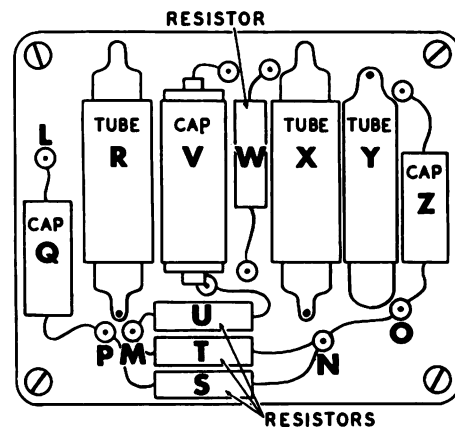

Figure 6A.
● Information for items 4 through 15: Assume that a plug-in subassembly consisting of four video amplifier stages is defective. Your problem is to locate the source of the trouble and then to correct it. Figure 6A shows a component parts layout diagram for this subassembly.
6. The malfunction of the subassembly shown in figure 6A is found to be caused by a poorly soldered joint at terminal O. Since the operating temperature of the assembly does not exceed 200° F., the appropriate solder to employ is
8. You should tell Jackson that before he resolders the faulty connection at point O in figure 6A, he should tin his iron by
11. The recommended way to make the solder connections on a miniature assembly like the one shown in figure 6A involves the use of
12. It is very possible that Jackson will damage some part of the miniature assembly in figure 6A if he uses
20. In the miniature assembly shown in figure 6A, tube X is installed with the red dot up, and it has spaces for 8 leads. If two of the spaces are blank, the lead farthest from the red dot is number
21. In replacing tube X of figure 6A, the location of the proper soldering connection for each lead is obtained from the